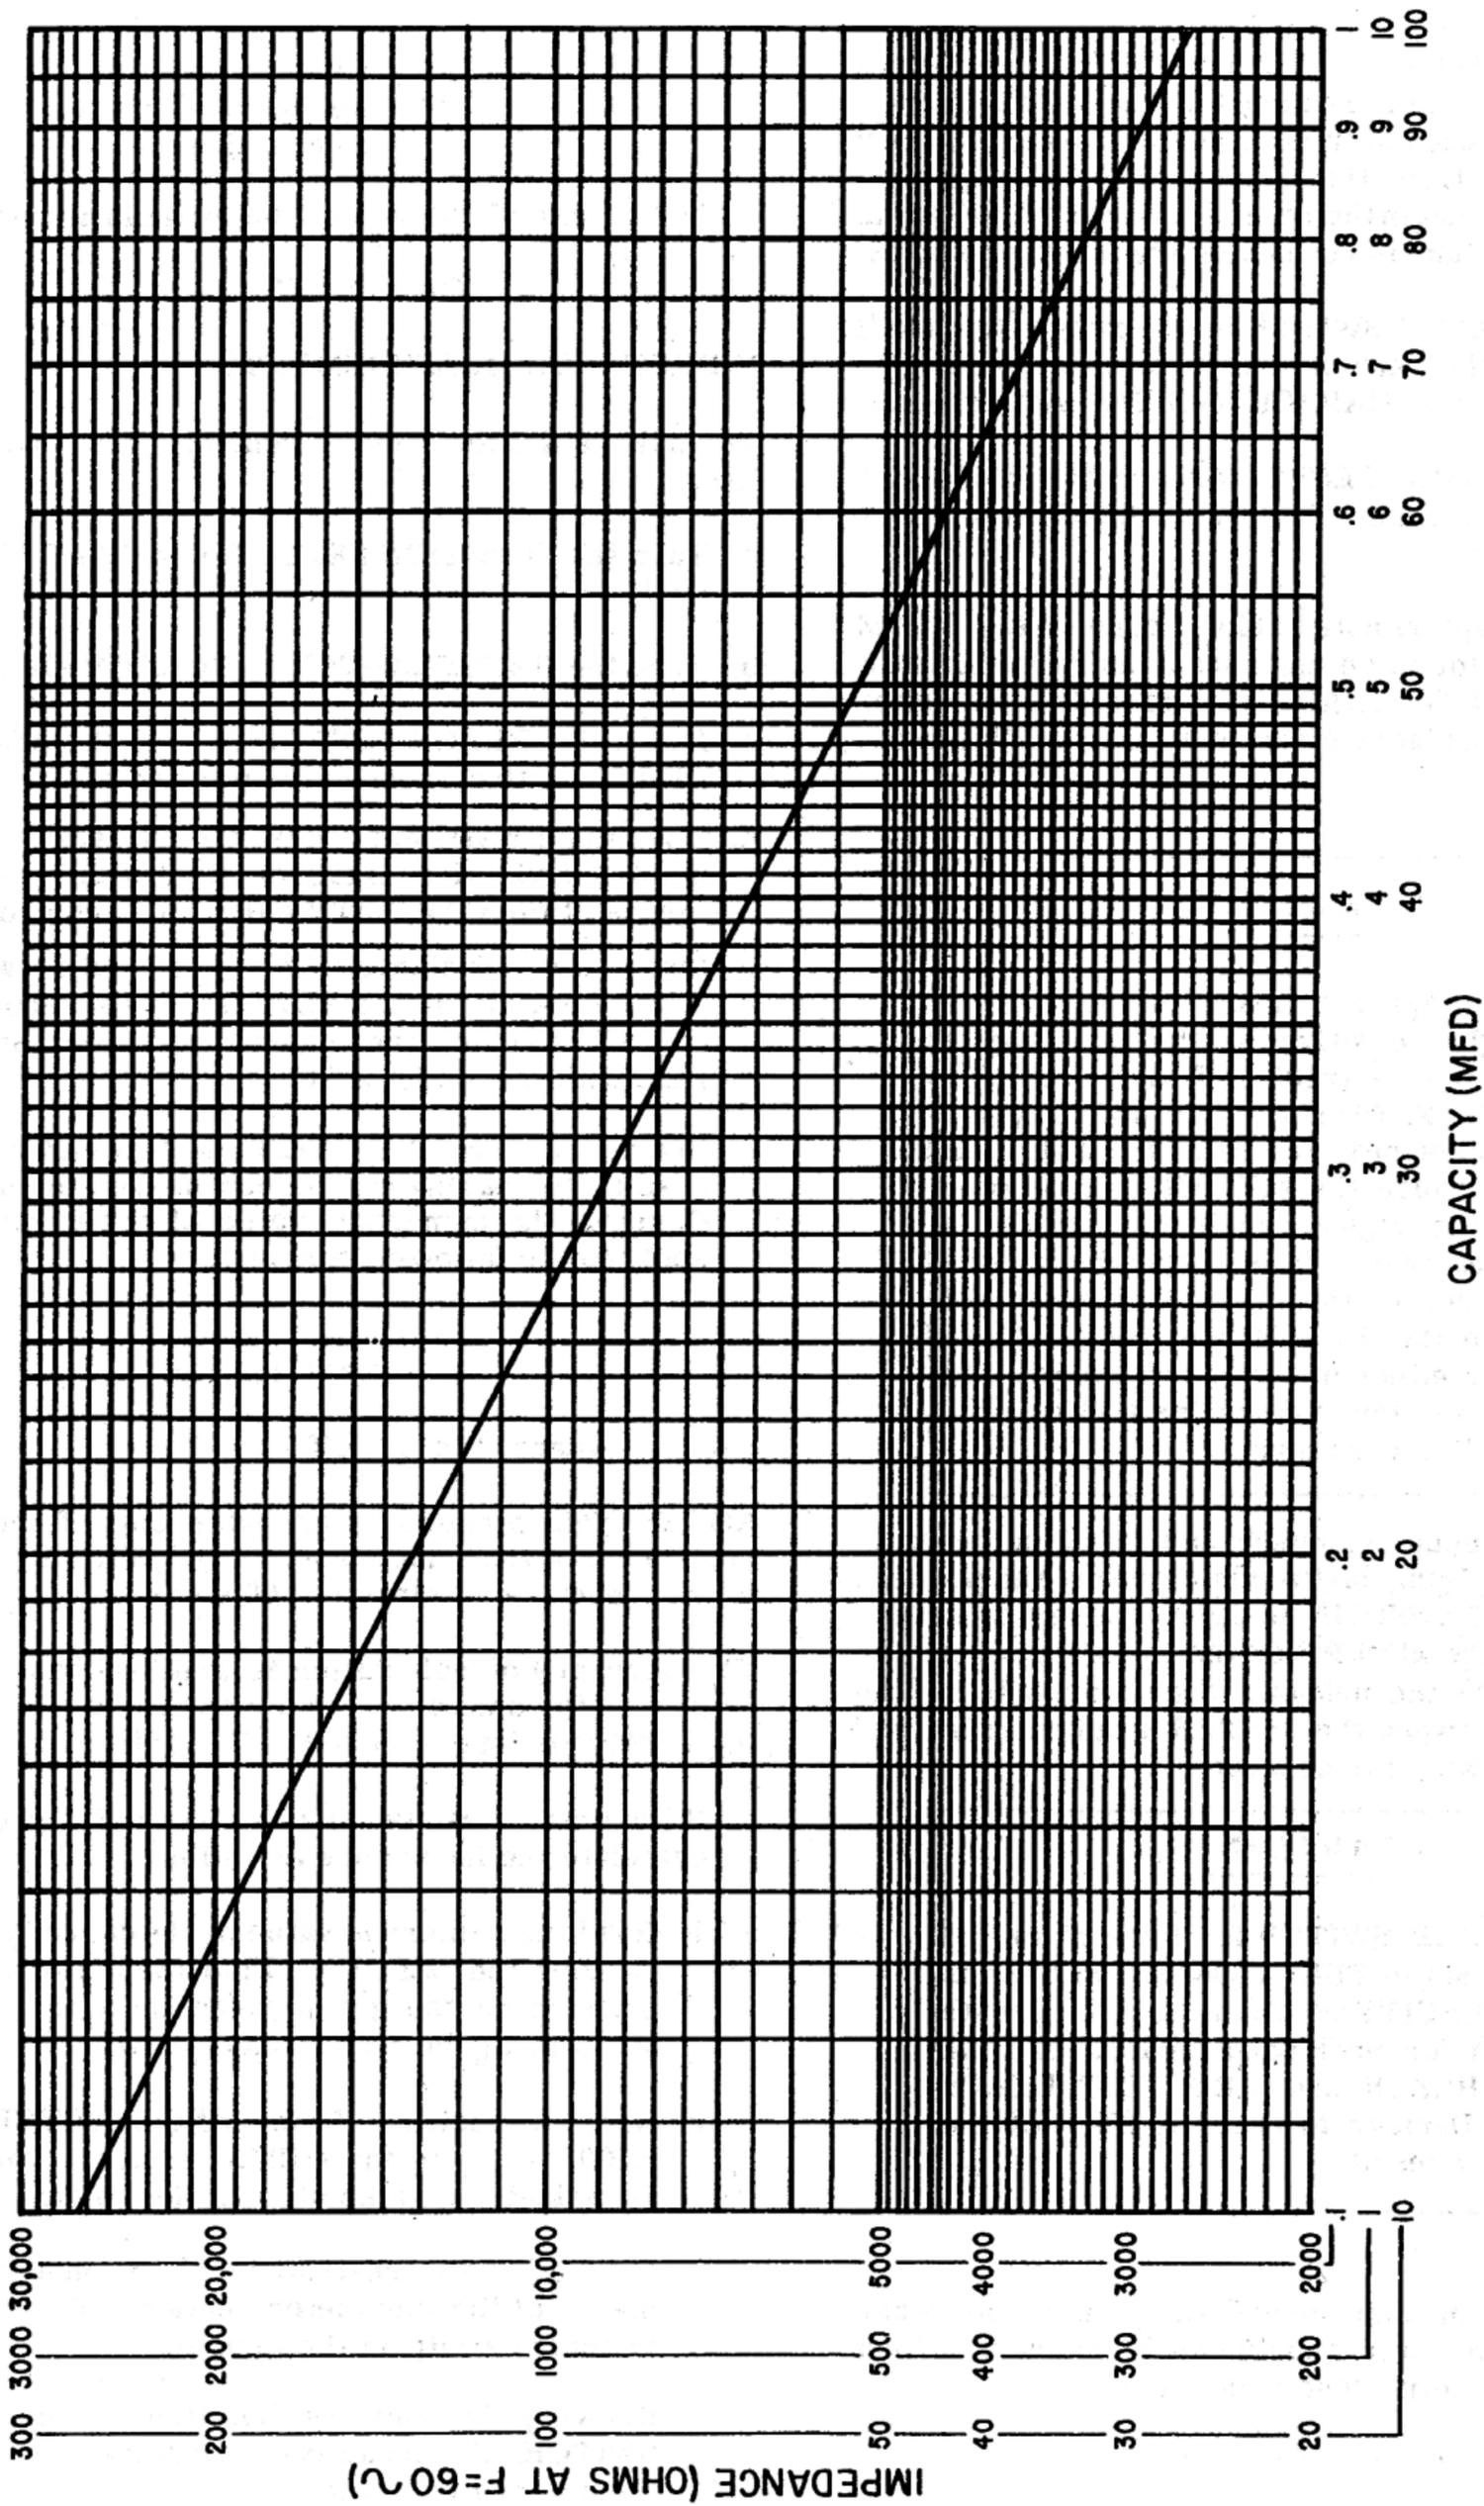

Figure 3. Capacity versus Impedance Graph
1. Read the numerical value of the capacity directly from the METER. Find the associated impedance on the graph given in figure 3. This value is Z_L in the formula below.
Z_L = impedance in ohms (found by means of impedance graph, figure 3, from associated capacitance indicated on METER)
Therefore, the error due to resistance is greater than 1%. Referring to the graph in figure 3, it will be found that the impedance for a capacity reading of 8.8 MFD is 300 ohms. Substituting in the formula: